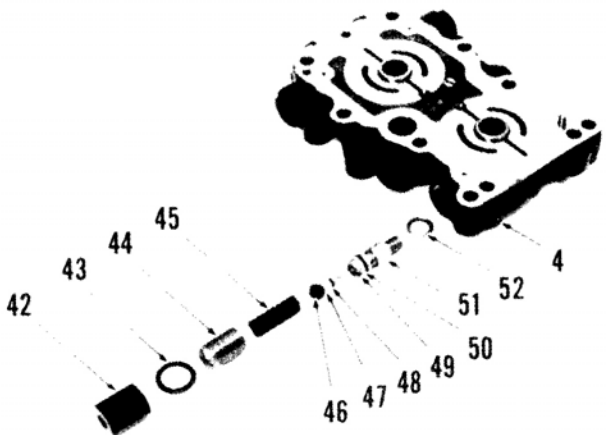
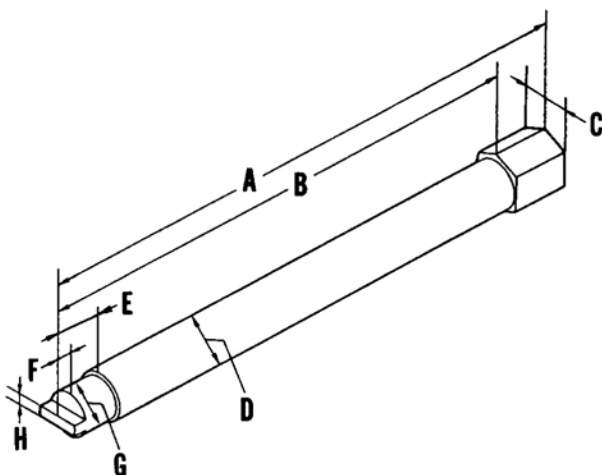

Fig. 65—Exploded view showing high pressure relief valve located in port block (4).
Fig. 66—View showing dimensions needed for constructing special valve seat (51 - Fig. 65) removal tool.
Remove high pressure relief valve shown in Fig. 65. Note that to maintain set pressure of relief valve, height of plug (44) must be measured and alignment marks placed on plug (44) and port block (4) before plug (44) is removed. To remove seat (51), Kubota special tool 07916-60841 or a suitable equivalent must be used. Tool may be constructed using dimensions shown in Fig. 66. Inspect all components for heavy scratches, burrs, corrosion, excessive wear and any other damage. If clogged, blow valve passages clear with compressed air. Inspect spring (45 - Fig. 65) for any deformities and broken coils.
Cap nut (42 - Fig. 65) should be tightened to 59-69 N·m (43-51 ft.-lbs.) torque. Tighten screws securing trunnion shaft covers to 2-2.5 N·m (17-23 in.-lbs.) torque.